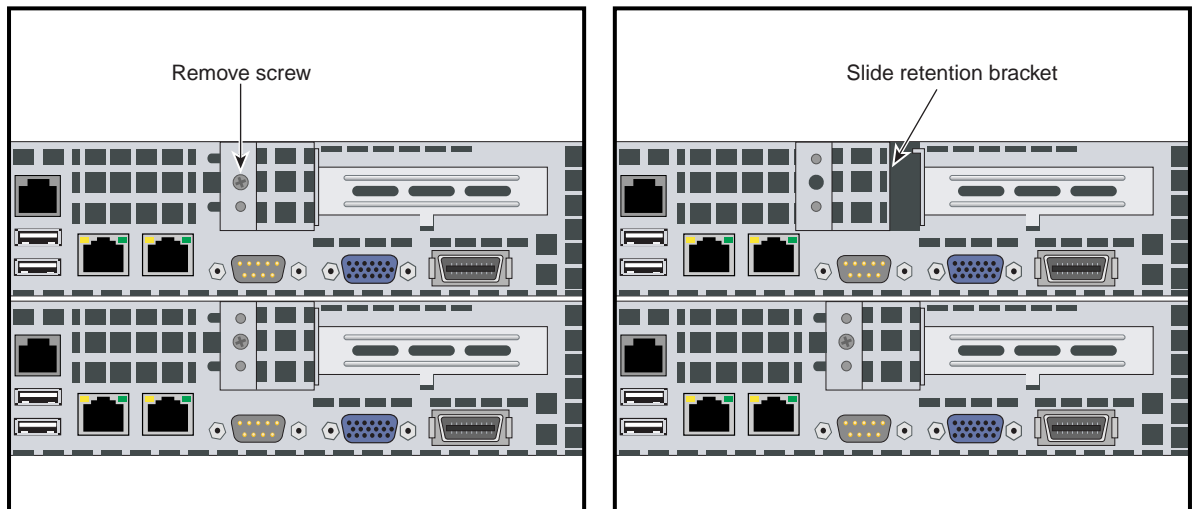

Figure 6-6 PCIe Retention Screw and Tab
2. Use a phillips-head screwdriver to remove the retention screw to the left of the PCIe slot (see Figure 6-6 for an example).